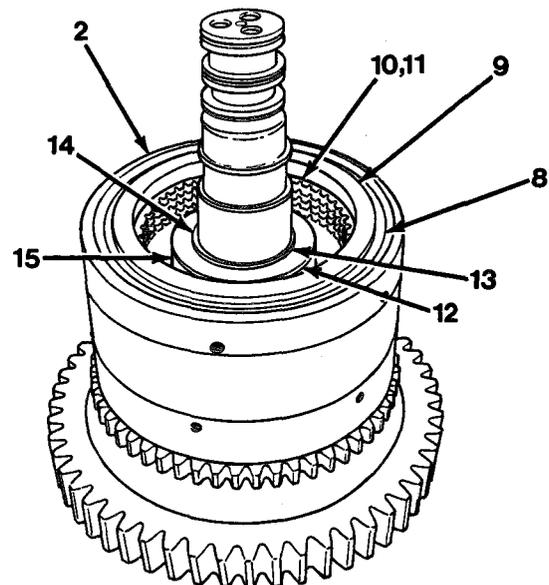

Figure 11-7
18. Install clutch piston (16) in clutch shaft assembly (2, Figure 11-7).